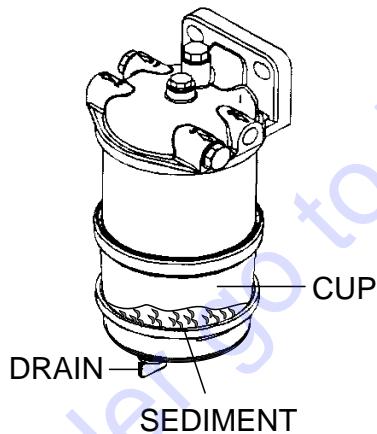

Figure 45. Fuel Water Separator
1. Inspect the fuel filter water separator daily. If the fuel filter/water separator (Figure 45) has collected a significant amount of water and sediment at the bottom of the cup, it should be drained off.